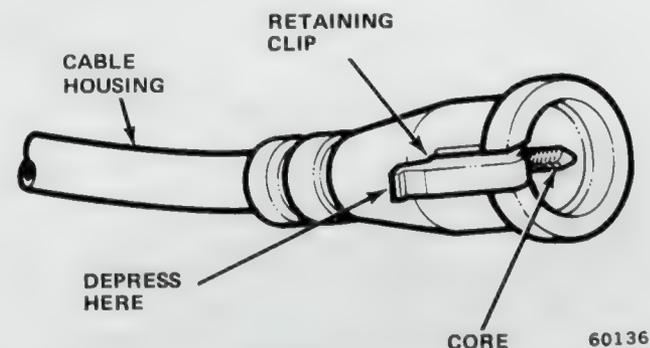

Fig. 3C-4 Disconnecting Speedometer Cable
(1) Disconnect battery negative cable.
(2) Remove instrument cluster bezel with a straight, firm pull (fig. 3C-2).
(3) Remove radio control knobs and nuts.
(4) Remove radio overlay retaining screws.
(5) Remove headlamp switch overlay screws.
(6) Pull headlamp switch rearward and disconnect speedometer cable (fig. 3C-4).
(7) Remove instrument cluster retaining screws.
(8) Disconnect instrument panel wire harness connectors.
(9) Remove steering tube cover (column shift automatic only).
(10) Disconnect gear selector dial cable from steering column, if equipped, and remove cluster assembly.